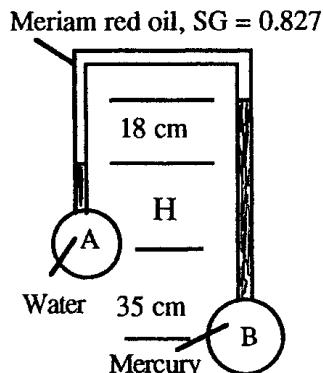

Fig. P2.32
**2.32** For the manometer of Fig. P2.32, all fluids are at  $20^\circ\text{C}$ . If  $p_B - p_A = 97 \text{ kPa}$ , determine the height H in centimeters.